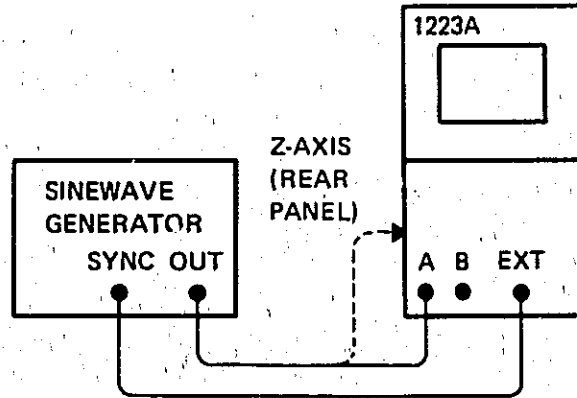

Figure 4-10. Intensity Modulation Test Setup.
1. Connect the Sinewave Generator to the 1223A as shown in Figure 4-10 and set the 1223A controls as follows: